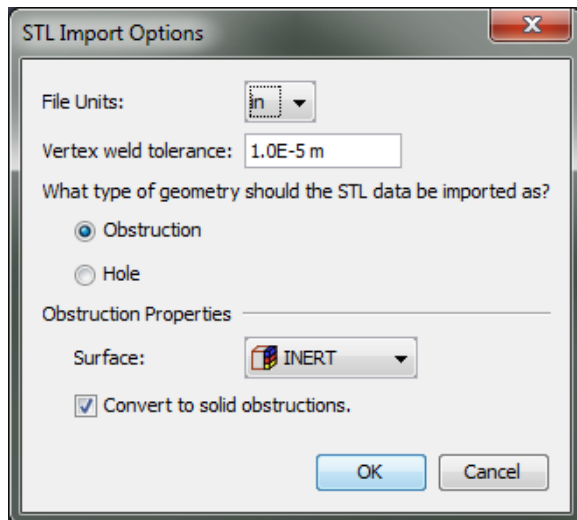

Figure 4:2. STL Import Options dialog
3. Enter the import options in the **STL Import Options** dialog as shown in Figure 4:2.